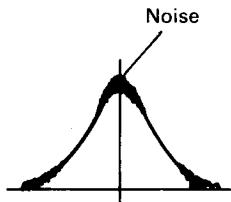

Fig. 21
- Note 1: Apply low-input signals from a sweep generator (with a small amount of noise superimposed on IF waveform as in Fig. 21), and adjust the waveform until it becomes maximum and symmetrical.